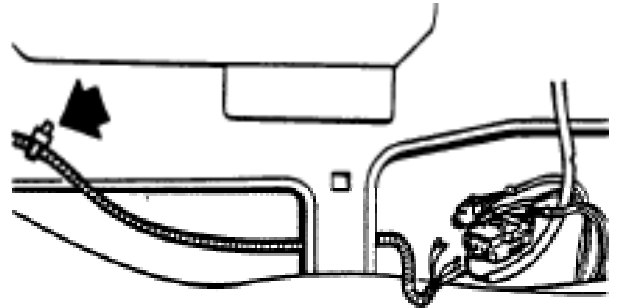

Figure 4. Cable Tie Securing Wiring to Body
4. Cut the cable tie securing the wiring to the body (see Figure 4).